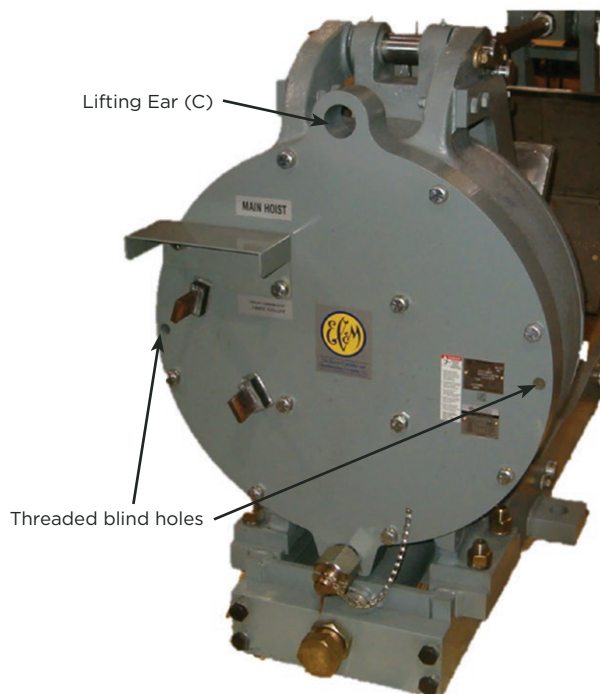

Figure 4: Rear of Magnet Case
3. Remove the eight hex-head cap screws (2) from the outer edge of the magnet case cover.
4. Screw two hex-head cap screws (2) into the threaded blind holes in the magnet case cover. This will break loose the magnet case cover and coil core assembly from the magnet case. See Figure 4.
5. A lifting ear (C), located on the magnet case cover, aids in removing the coil assembly. Slide the coil and core assembly out of the magnet case.